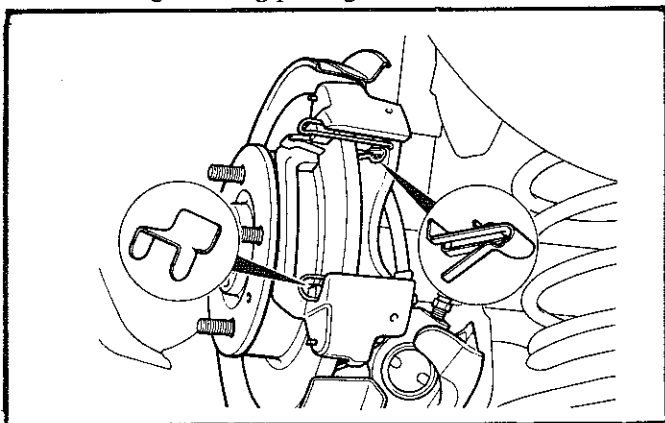

Fig. 7—Installing pad clips
- (3) Install the pad clips B as shown in Fig. 7.
- (4) Ensure the piston recess aligns with the raised section of the pad backing.
- (5) Sparingly lubricate the retainer plates and caliper slides with high melting point grease.